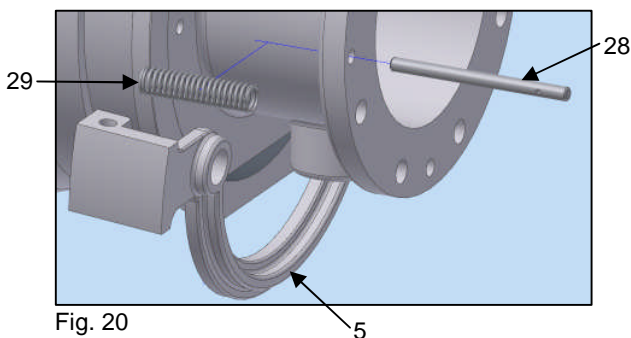

Fig. 20
21. Use Pliers inside of Retractor Spring (29), depress retractor spring, grip Retractor Guide (28) and slide guide out of the Coupler. Once retractor guide removed, remove retractor spring. Repeat process to remove spring and guide on the other side of the Coupler. **Warning, be careful whilst completing this step as the mechanism is highly sprung.** The Retractor Bale (5) will now fall away from the Coupler. (Fig. 20)